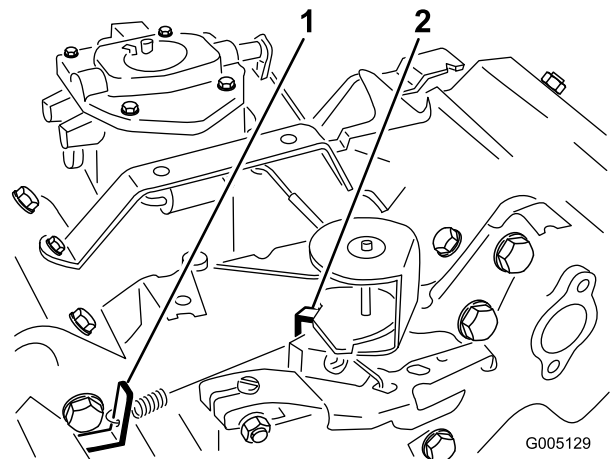

Figure 51
3. Bend the governed idle spring anchor tang (Figure 51) to attain an idle speed of 1650 ± 100 RPM. Check the speed with a tachometer.
- Move the throttle control to the Fast position. Bend the high speed spring anchor tang (Figure 51) to attain a high speed of 2850 ± 50 RPM.